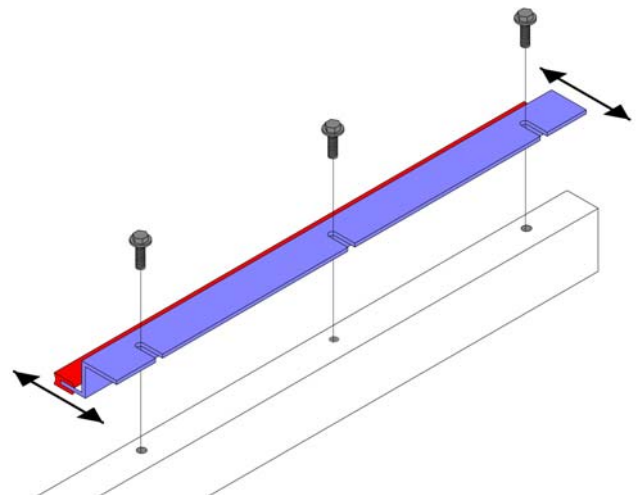

Figure 23
- Middle seal Z-plates (Figure 23) depending on intended air flow distribution attach either to the horizontal or the vertical middle spar with the supplied cutting screws.